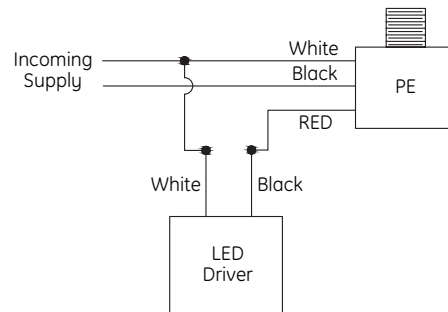

Figure 3: Button PE Wiring
- Reinstall Button PE, Motion sensor, or Transformer if previously removed (Figure 3).